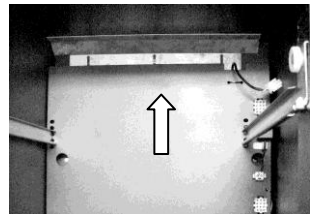

Figure 8: Turning Vane
7. Remove one of two existing Turning Vanes (see Fig. 8) located in center opening and move second turning vane to top